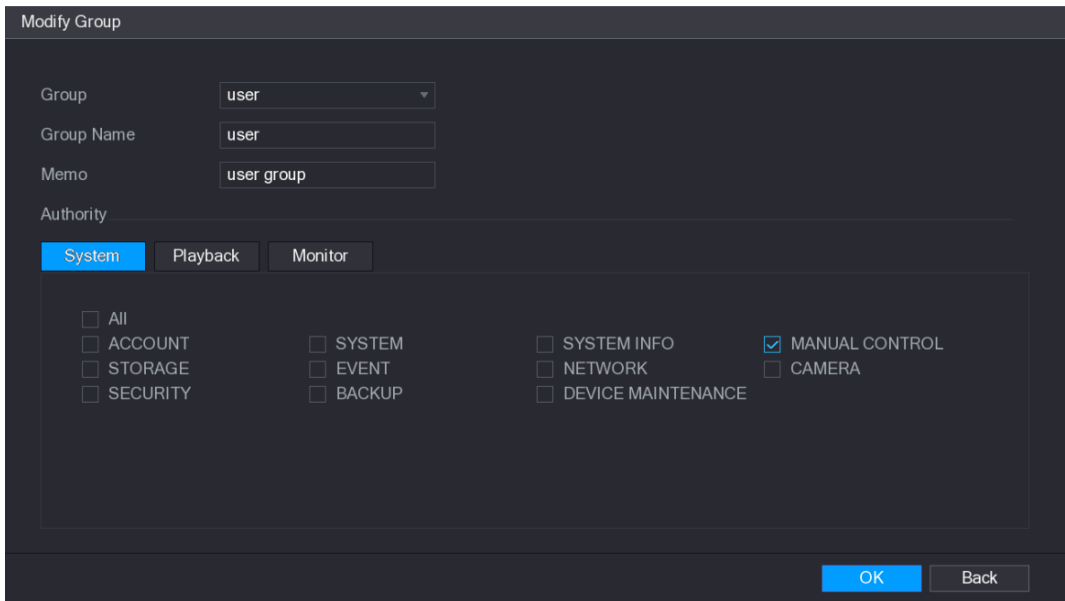

Figure 5-195
Step 3 The **Modify Group** interface is displayed. See Figure 5-195.